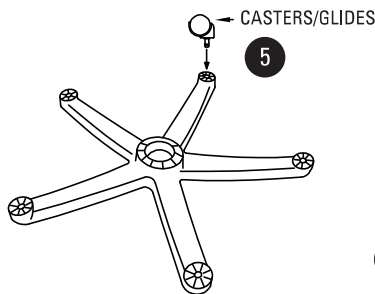

FIGURE 1.
- 2) Place base (1) upside down and insert casters/glides (5) (see figure 1).
- 3) Slide **optional** foot ring (4) over bottom pneumatic cylinder (2). The foot ring rests atop spokes. Make sure spokes face the floor.